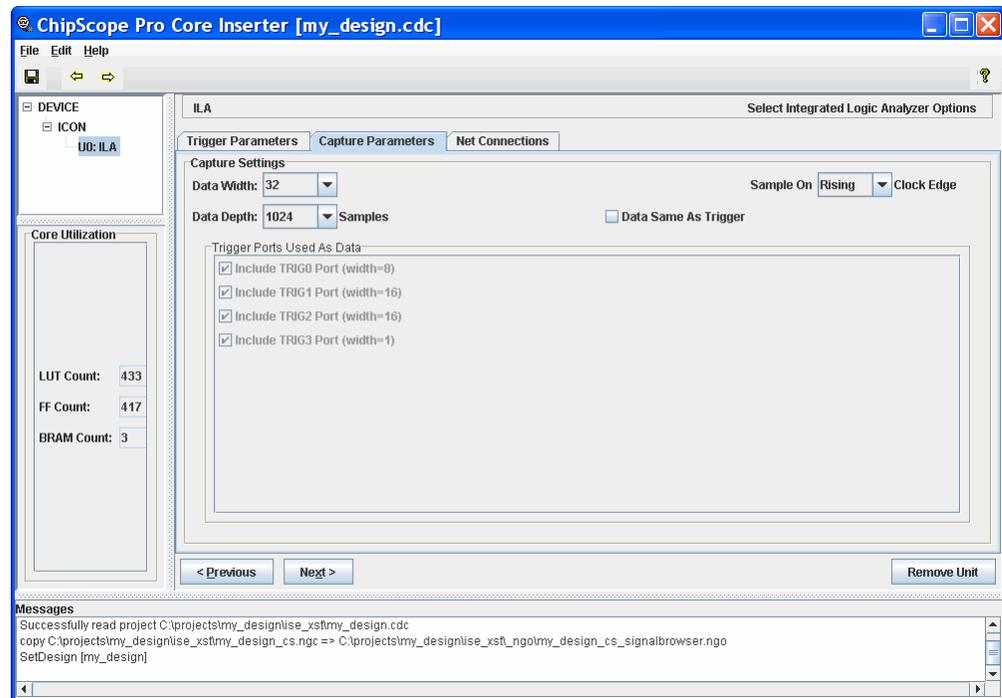

Figure 3-13: ILA Core Capture Parameters
The second tab in the Core Inserter is used to set up the capture parameters of the ILA core (Figure 3-13).
- Data Separate from Trigger (Figure 3-13, page 84)